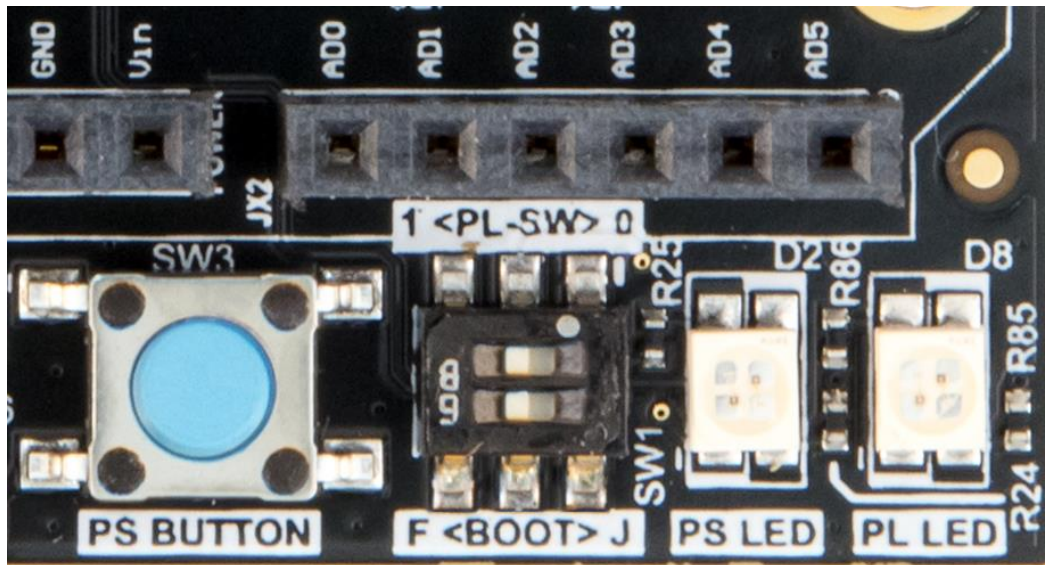

Figure 12 – Boot Mode switch position
- Make sure the Boot Mode switch is set to the 'F' position for boot from flash, as in Figure 12 below. This should be the default position. The position of the other switch can be the same, also towards the USB connectors.